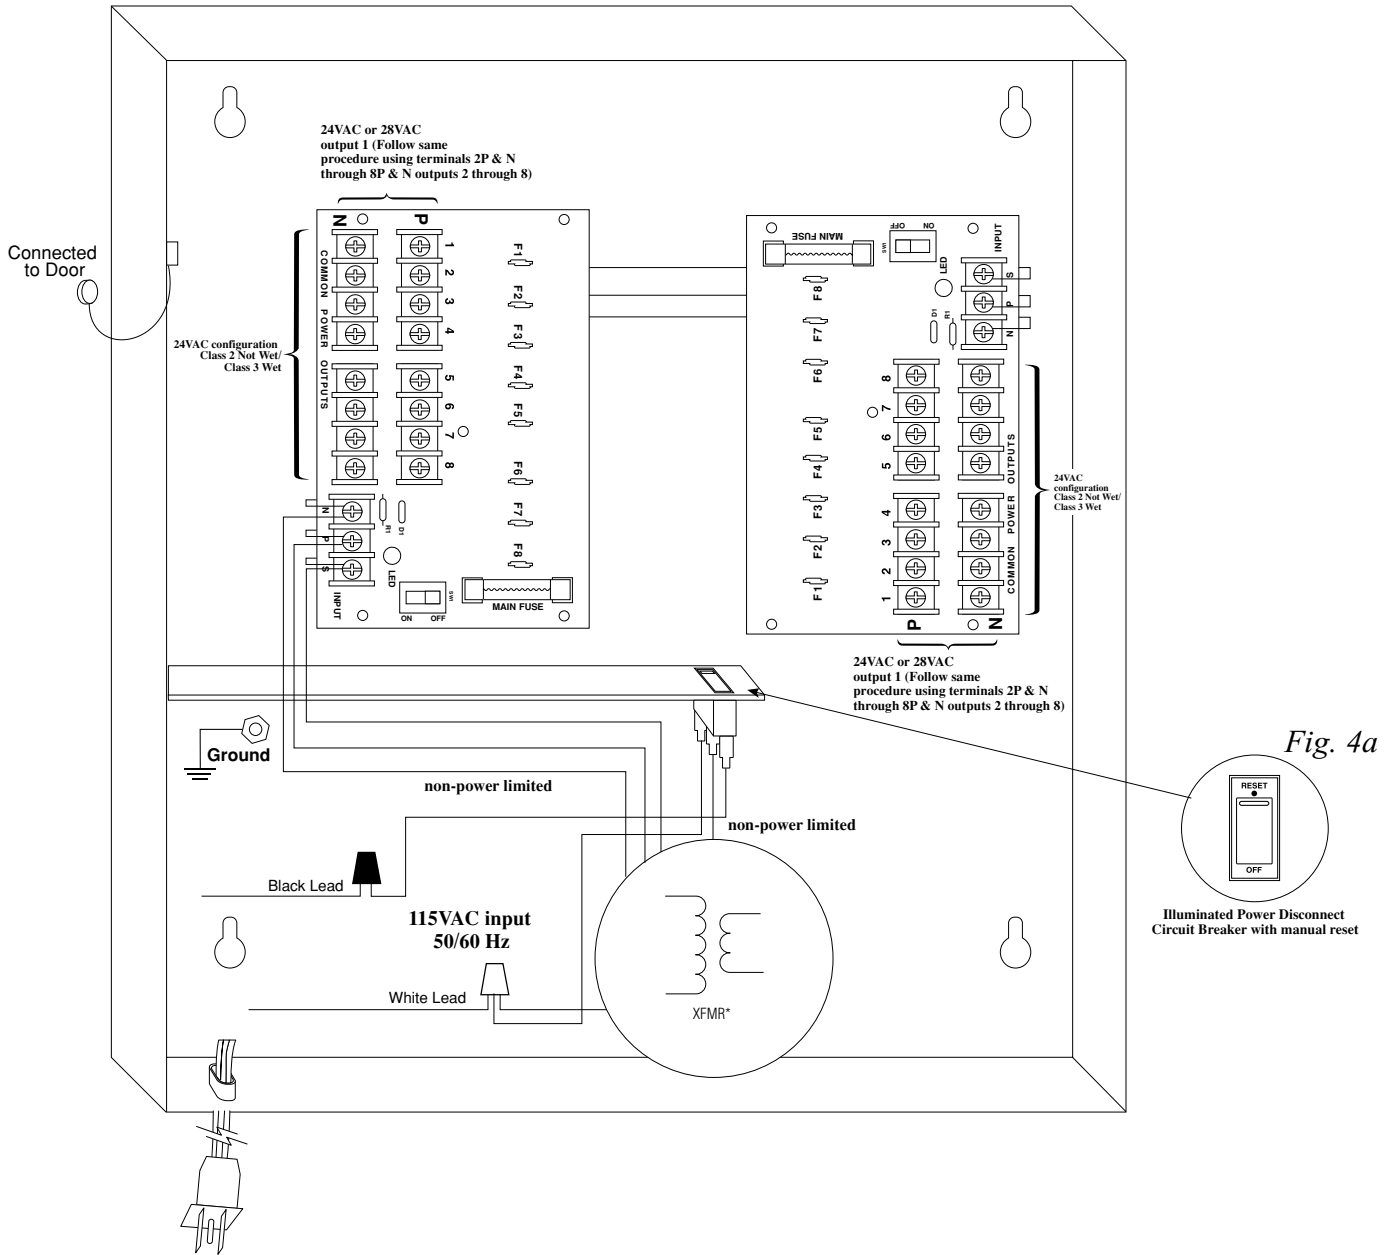

Fig. 5
8. Connect devices to terminals marked [1P - 1N through 8P - 8N] on PD8 board (Figs. 1-4, 7, 8, pgs. 4-7, 9, 10), or terminals marked [1P - 1N through 16P - 16N] on PD16W/PD16WCB board (Fig. 5, pg. 8), carefully observing polarity.